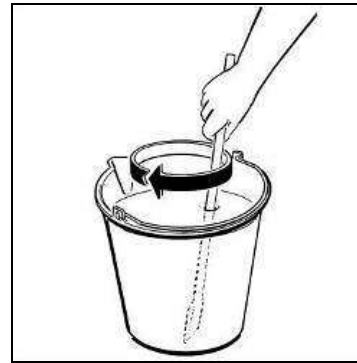

Fig. 4
- Dilute and mix the product in a separate container according to the manufacturer's instructions (see fig.4); never pour dry powder, crystals, or concentrate into a dry bowl.